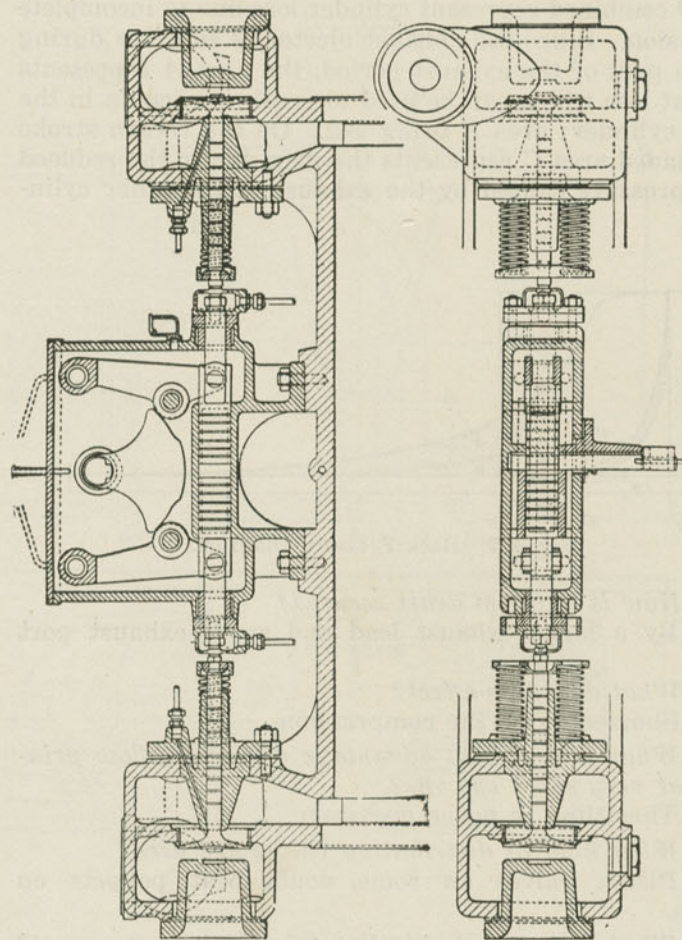

Fig. 418. Details of Poppet Valves and Lifting Mechanism, Unaflo Locomotive.
A. By arranging a cam roller between the valve and the valve-lever fulcrum, as seen in Figs. 418 and 419.